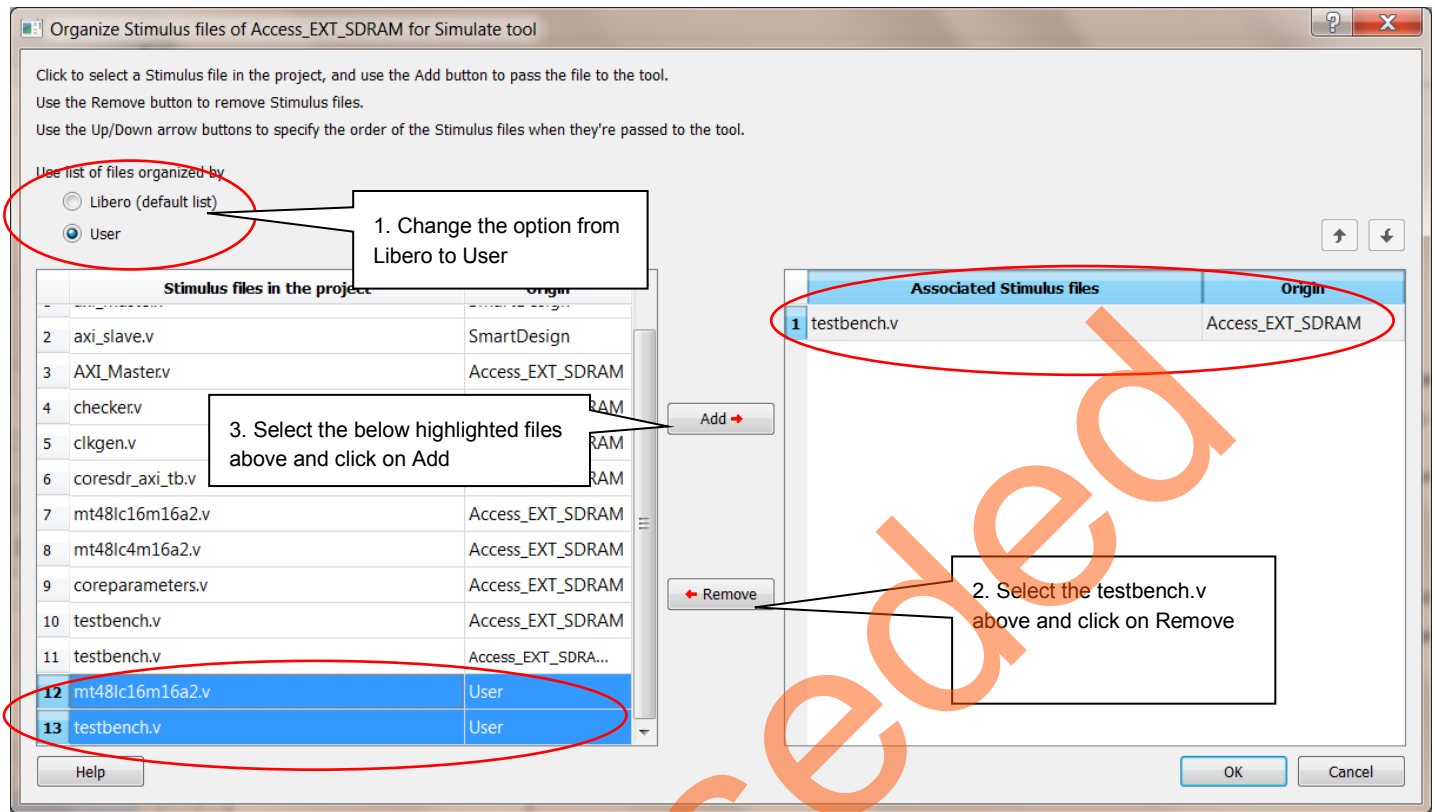

Figure 33. Organizing Stimulus Files
- Select the **testbench.v** and **mt48lc16m16a2.v** files under **Stimulus files in the project** and click **Add** to add them to the Associated Stimulus files as shown in Figure 33.